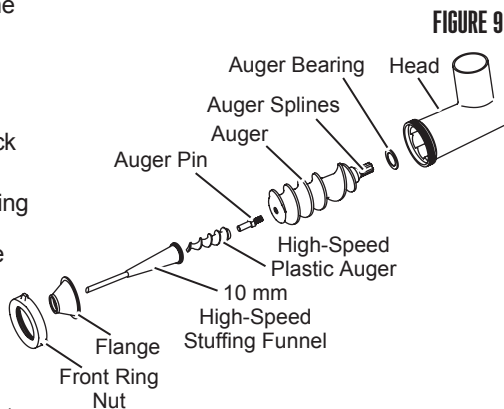

FIGURE 9
3. Insert the Auger, with the Auger Bearing attached, into the Head (**FIGURE 9**). Align the Auger Splines with the Drive Shaft of the Grinder.